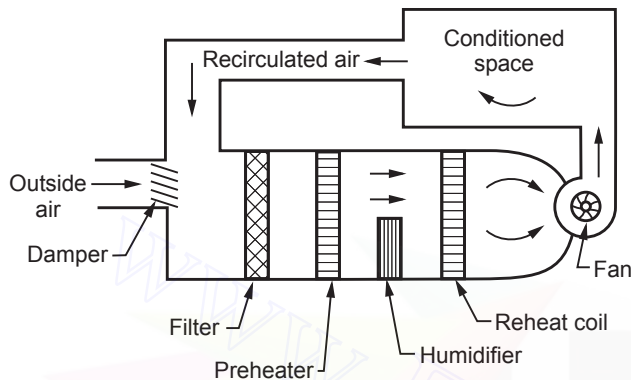

Fig. 5.91 : Winter air conditioning system
- Fig. 5.91 shows the arrangement of winter air conditioning system. In this system, the air is heated which is accompanied by humidification.